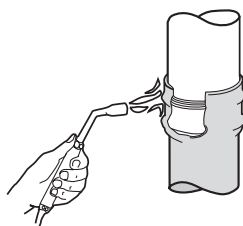

Fig.40b Heating joint
**Step 3** – Heat gently with a gas torch/hot air gun (Fig.40b), all round the socket starting at the base of the socket and working upwards